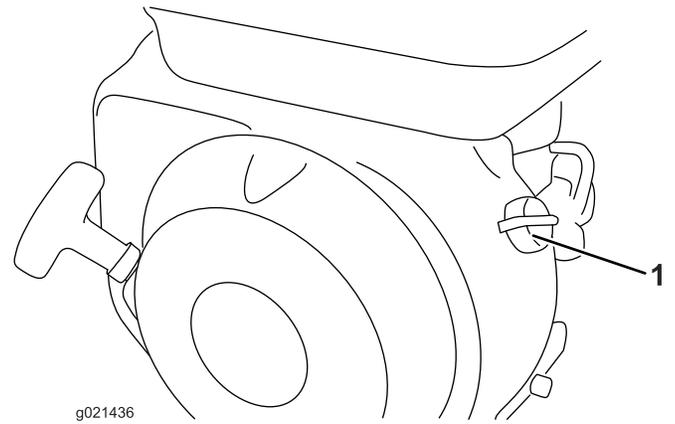

Figure 11
2. Move the engine switch to the On position (Figure 11).